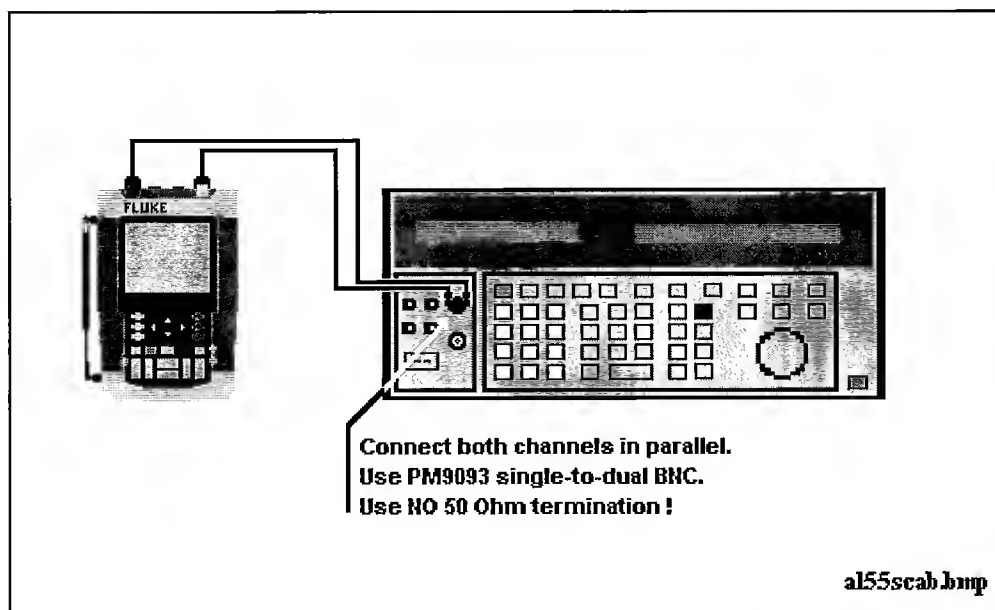

Figure 4-4. 5500 Scope Output to Test Tool Input A&B
1. Connect the test tool to the 5500A as shown in Figure 4-4. Do NOT use 50 Ω terminations!
1. Connect the test tool to the 5500A as for the previous test (see Figure 4-4).